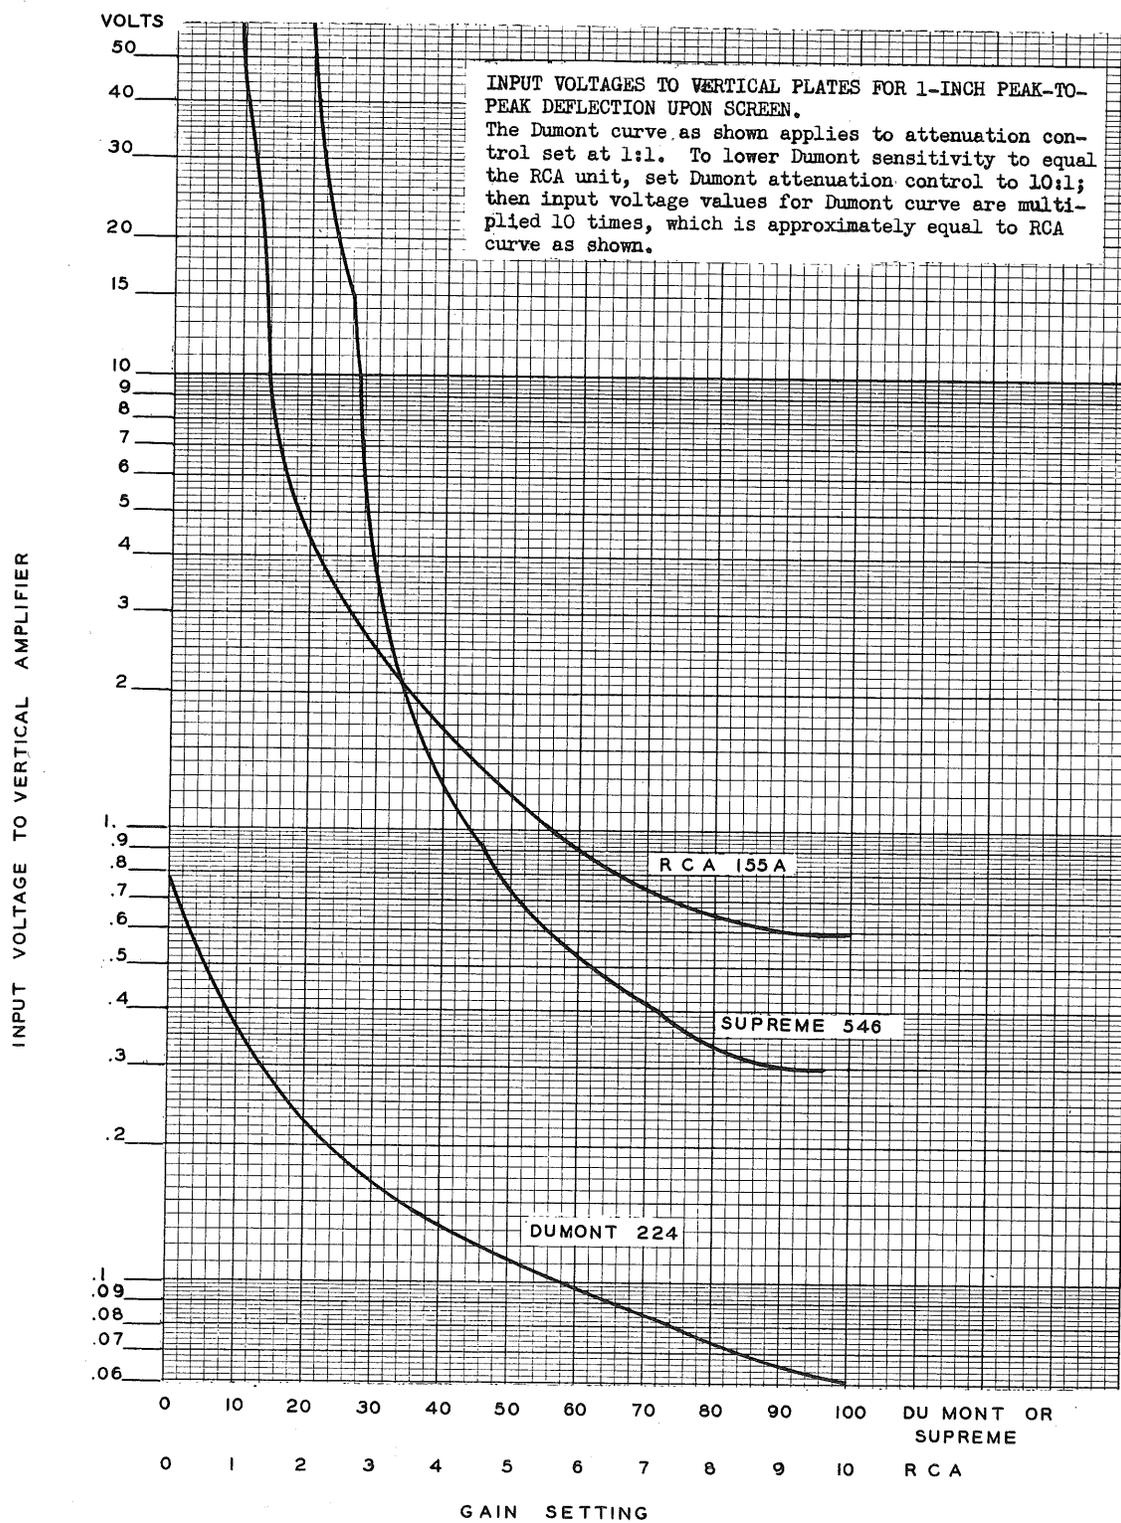

Figure 22. Voltage-gain calibration curves for oscilloscopes, Dumont model 224, Supreme model 546, and RCA model 155-A.
a. It is desirable to test the sensitivity of the test oscilloscope occasionally to determine whether the vertical amplifier is working properly. This may be done by applying a known audio-frequency voltage from the test oscillator to the vertical-amplifier terminals of the test oscilloscope in order to obtain a 1-inch peak-to-peak image. The vertical gain setting of the oscilloscope is then compared with the calibration chart illustrated in figure 22.
is described in paragraph 95. However, these standards need not be rigidly adhered to. Even if the settings of the test oscilloscope vary widely from those illustrated in figure 22, do not attempt to adjust the vertical-amplifier system if the amplification of the test oscilloscope is large enough to produce an *undistorted* image of satisfactory amplitude.